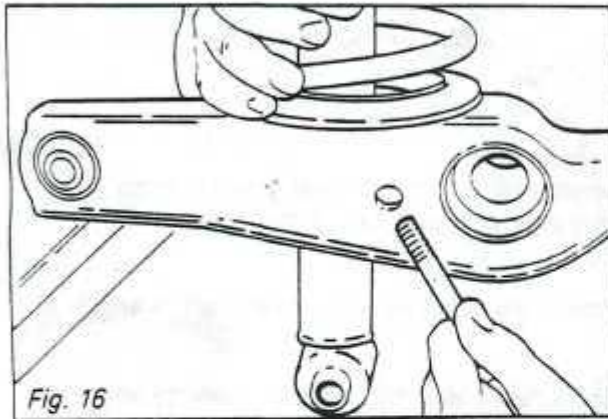

Fig. 16
2. Remove shock absorber lower mounting through bolt nut and remove through bolt. *Fig. 16*